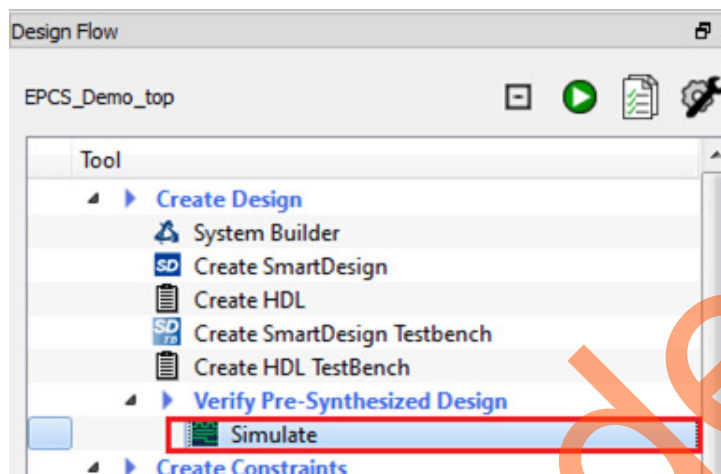

Figure 2 • Simulating the Design
8. To run the simulation, double-click **Simulate** under **Verify Pre-Synthesized Design** in the **Design Flow** window of the Libero project, as shown in Figure 2.